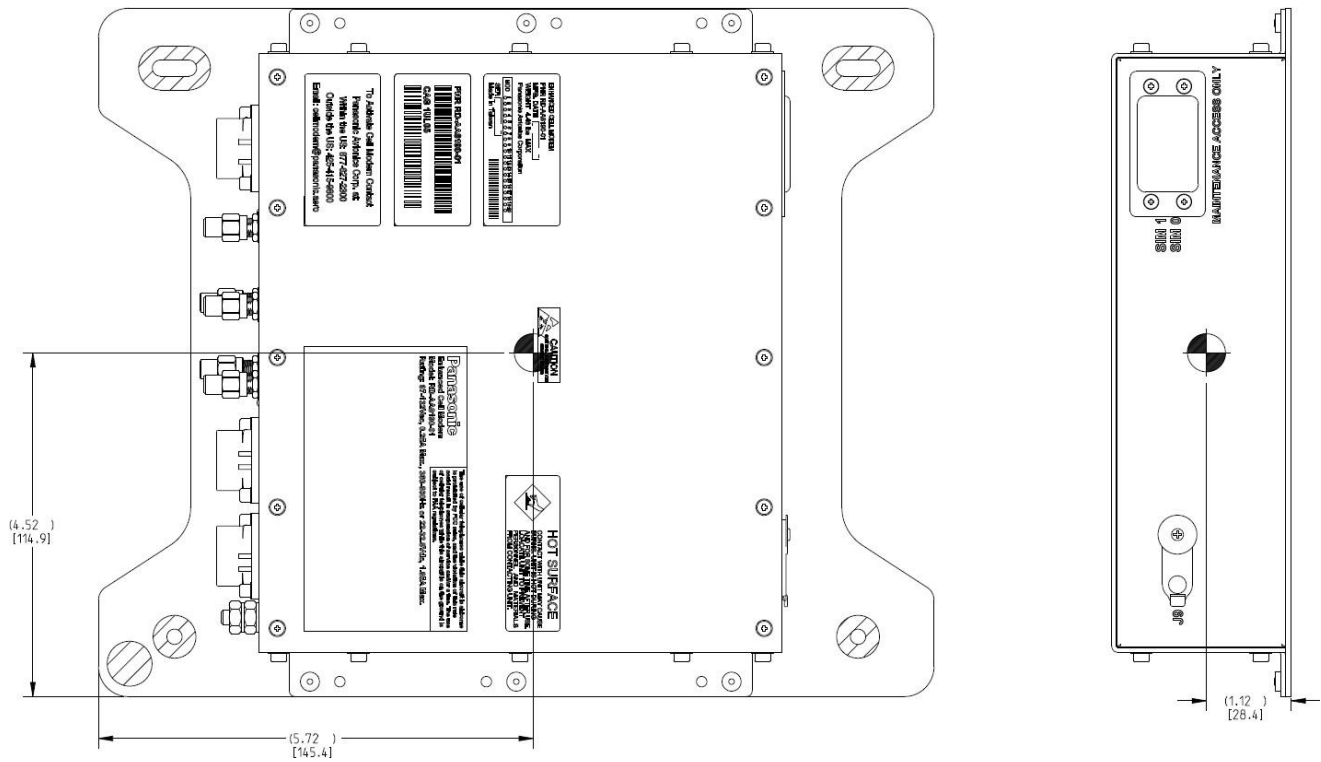

Figure 5: Center of Gravity
- Center of Gravity indicated by  in Figure 5.